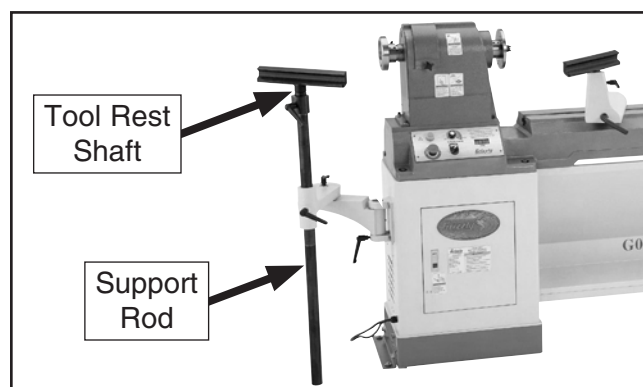

Figure 55. Locations to lubricate outboard tool rest.
2. Place several drops of light machine oil on a rag and wipe it up and down the tool rest support rod (see **Figure 55**).